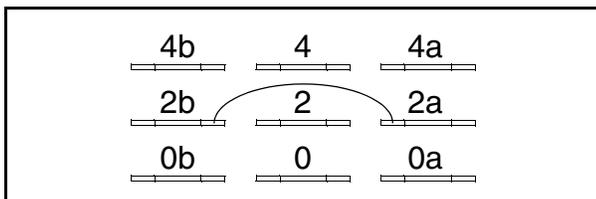
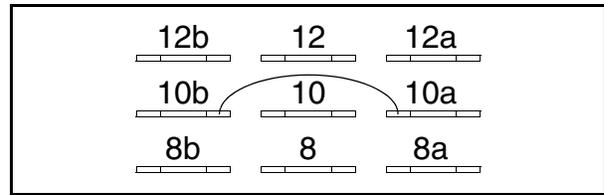

Figure 17
Figure 18
*Figure 17* and *Figure 18* illustrate the different options available.
This jumper configuration changes the fill temperature for the rinses from cold to warm for all cycles. See *Figure 17*.
This jumper configuration changes the water level for the wash segment from low to high for all cycles. See *Figure 18*.